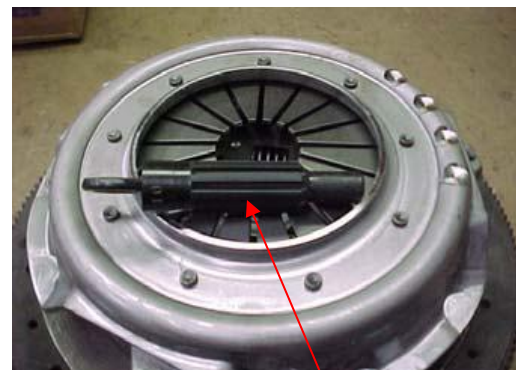

Fig.6
4. Insert Clutch Aligning Tool into Driven Discs and the Pilot Bearing. (Fig 6)